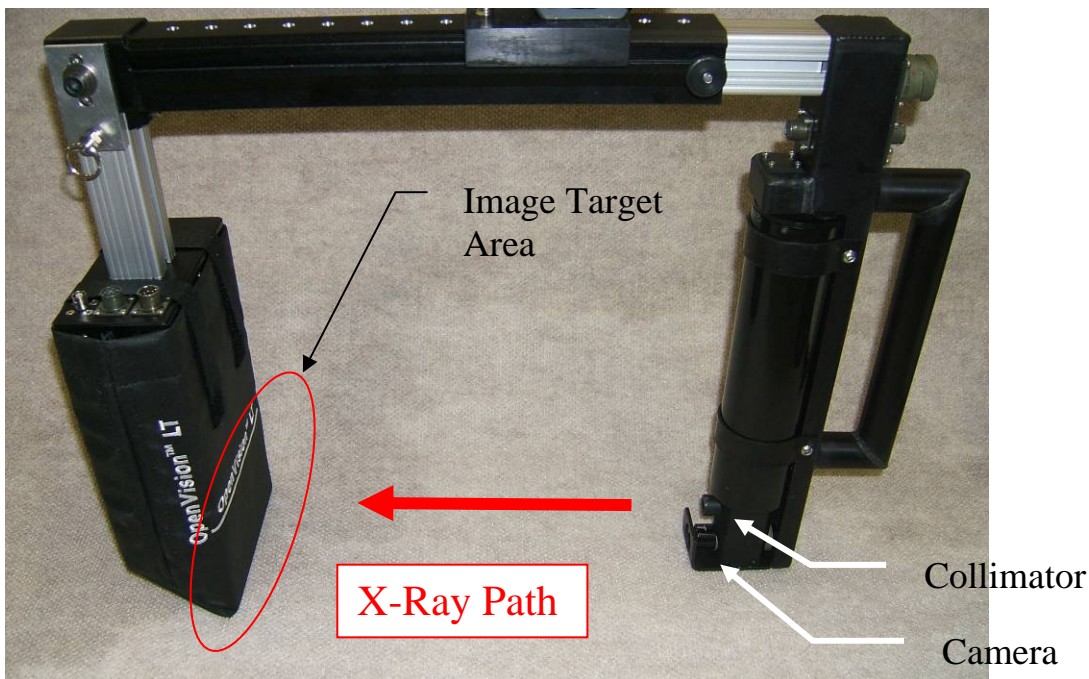

Figure 2. Xray Source and Imager Target
- I) Place key in switch and turn on (display will show video image from the camera that is adjacent to the port of the x-ray tube. See Figure 2.